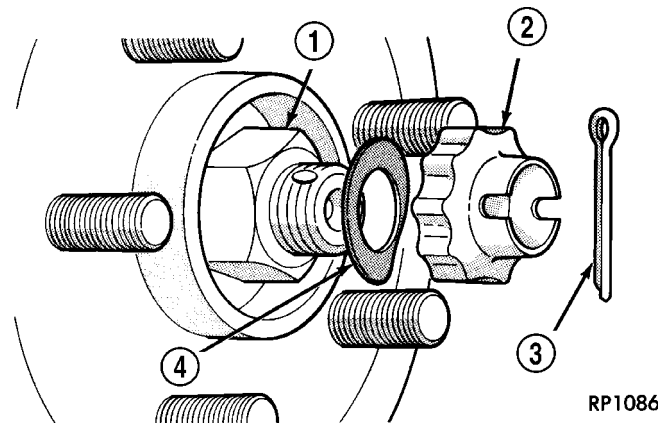

Fig. 21 Halfshaft Retaining Hardware
(8) Clean all foreign matter from threads of halfshaft outer stub axle. Install hub nut onto the threads of the stub axle and tighten nut to 244 N·m (180 ft. lbs.) (Fig. 21).